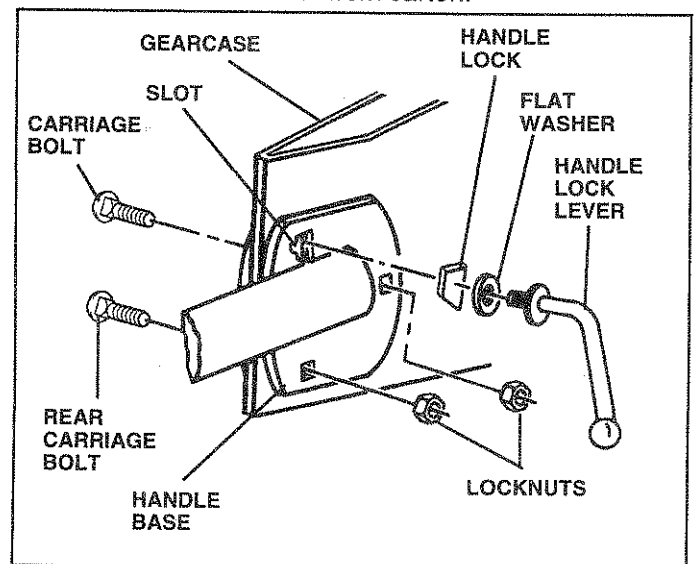

FIG. 5
- Rotate handle assembly down to install two carriage bolts and locknuts. Insert rear carriage bolt (Fig. 5) first, with head of bolt on L.H. side of tiller. Lower the handle assembly. Tighten bolts so handle moves with some resistance.